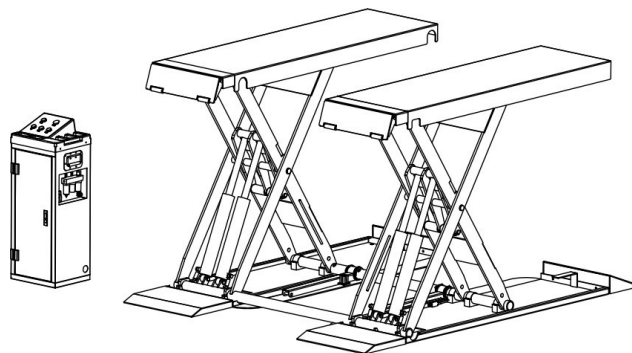

Fig. 11 WORKING ZONES
1. People remain in the safety zone while the vehicle is being lifted (Fig. 11).